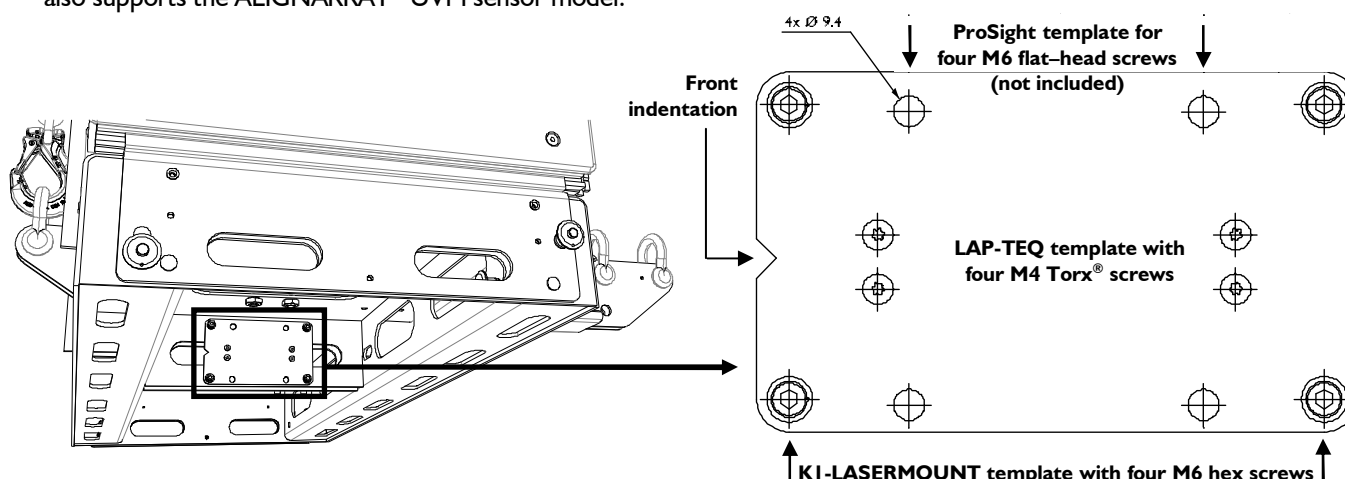

Figure 63: Inclinometer mounting plate inside KI-BUMP
A support plate has been integrated inside the KI-BUMP main frame for remote inclinometer sensor mounting (see Figure 63). Two sensor models are supported: TEQSAS® LAP-TEQ (part of the L-ACOUSTICS® TECH TOOLCASE, refer to the **TECH TOOLCASE Product spec sheet** [3.4]) and SSE® ProSight.
1. Remove the four M4 Torx® screws (T20) from the LAP-TEQ template (Figure 63).